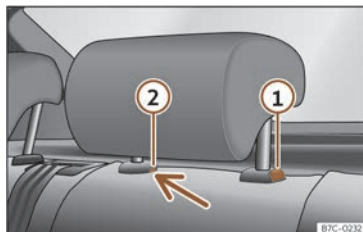

Fig. 97 Rear head restraint: removal.
- Press button >>> **Fig. 97** ①, while simultaneously pressing on the safety hole ② with a flat screwdriver a maximum of 5 mm wide, and remove the headrest.